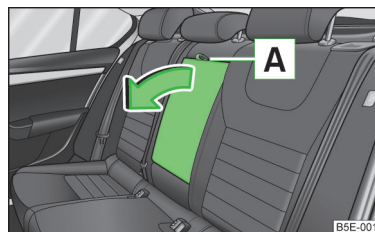

Fig. 53
- Pull on the loop **A** » Fig. 53 and fold the armrest forward in the direction of the arrow.